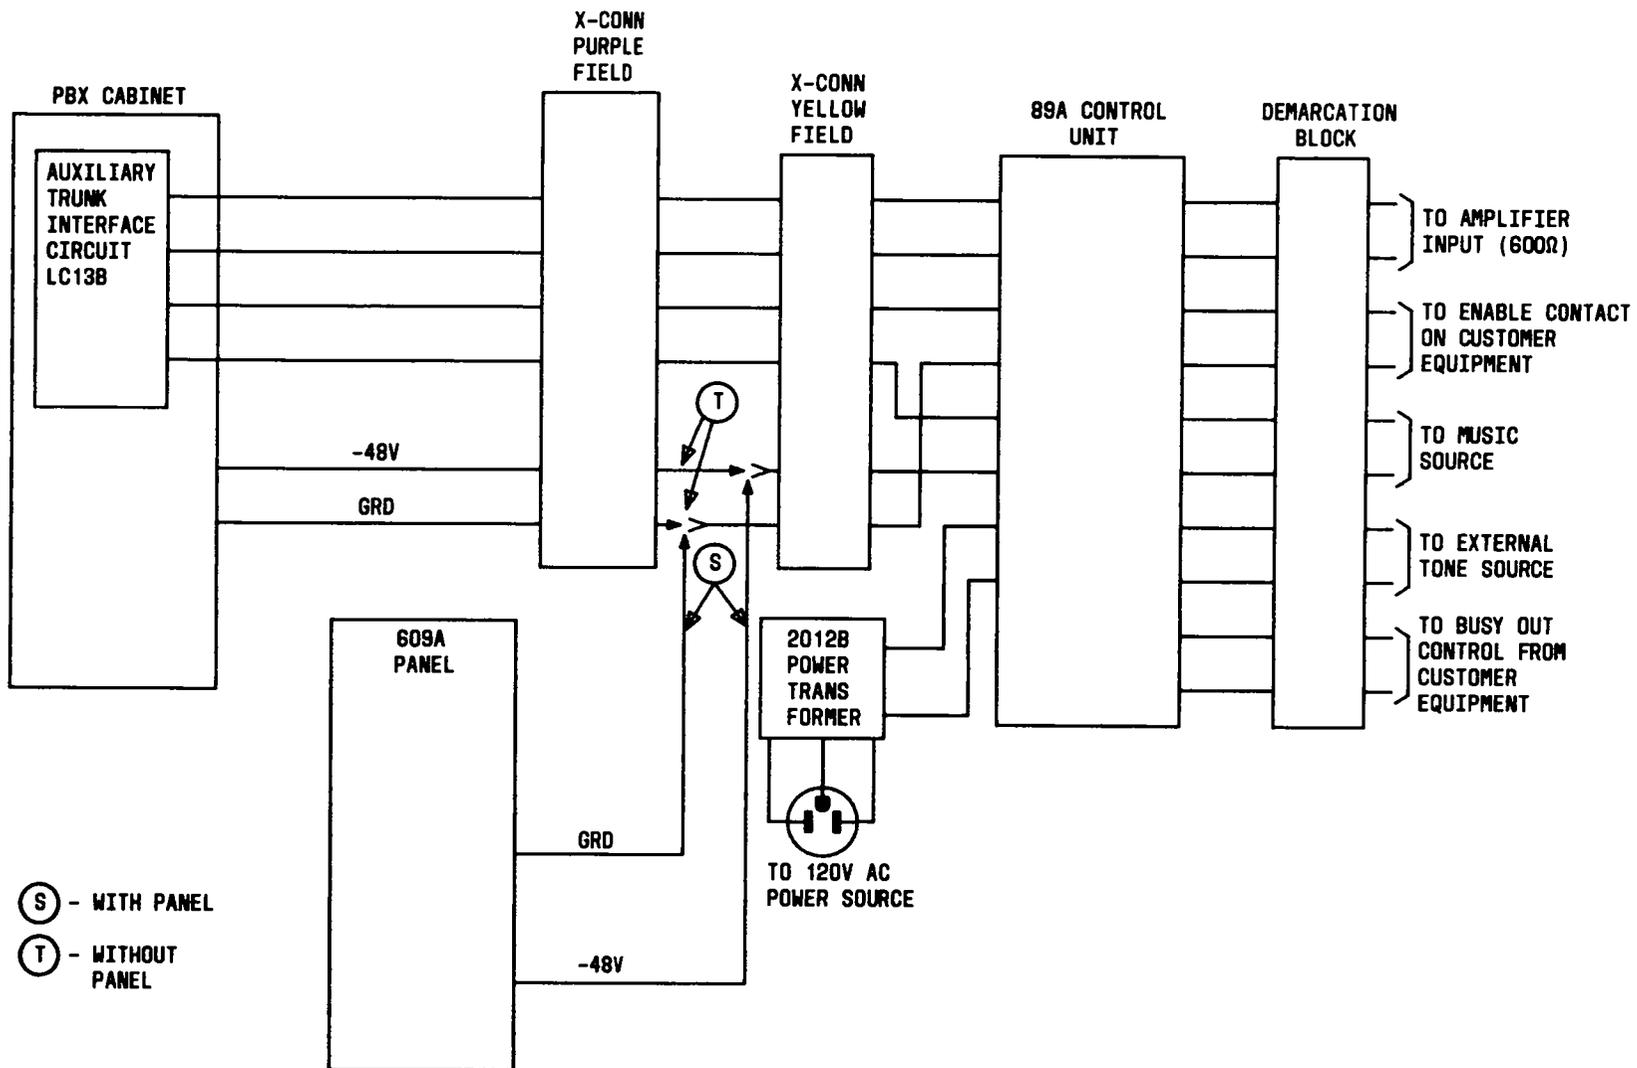

Fig. 31 — Loudspeaker Paging Connections
6.51 Up to three LC13B auxiliary circuit packs can be cross-connected to paging equipment which allows for the maximum of six paging zones. Connections for loudspeaker paging are illustrated in Fig. 31.